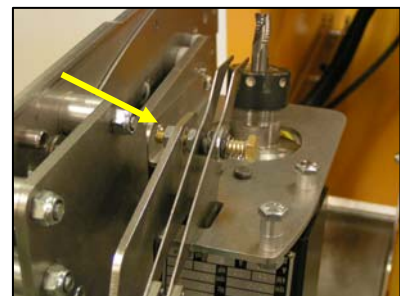

FIG 13
4. To adjust the router sensor assembly, loosen the jamb nut to the left side of the sensor bracket. (FIG 13)